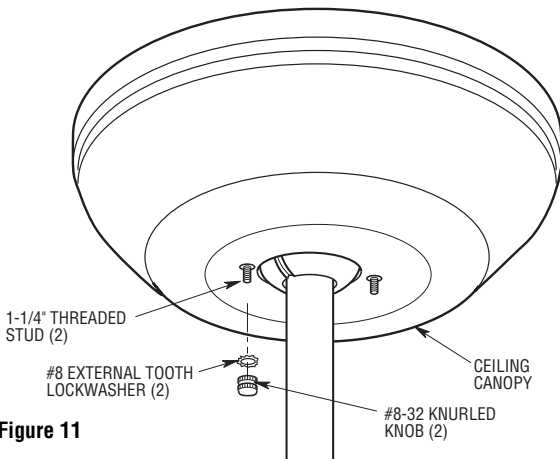

Figure 11
- 4. Lift the ceiling canopy up to the threaded studs and turn until studs protrude through the holes in the ceiling cover (Figure 11).
- 5. Secure the ceiling canopy in place by sliding lockwashers over the threaded studs and installing the two knurled knobs (supplied). (Figure 11.) Tighten the knurled knobs securely until the ceiling canopy fits snugly against the ceiling and the hole in the ceiling canopy is clear of the downrod.